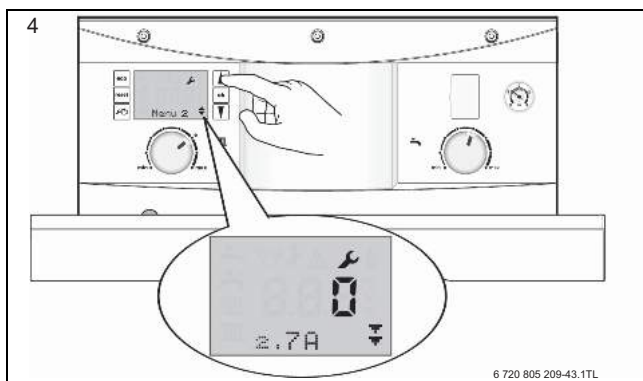

Fig. 72
- 4. Select the desired menu option using the arrow buttons (refer to figure 72) and press the OK button, the option will flash.